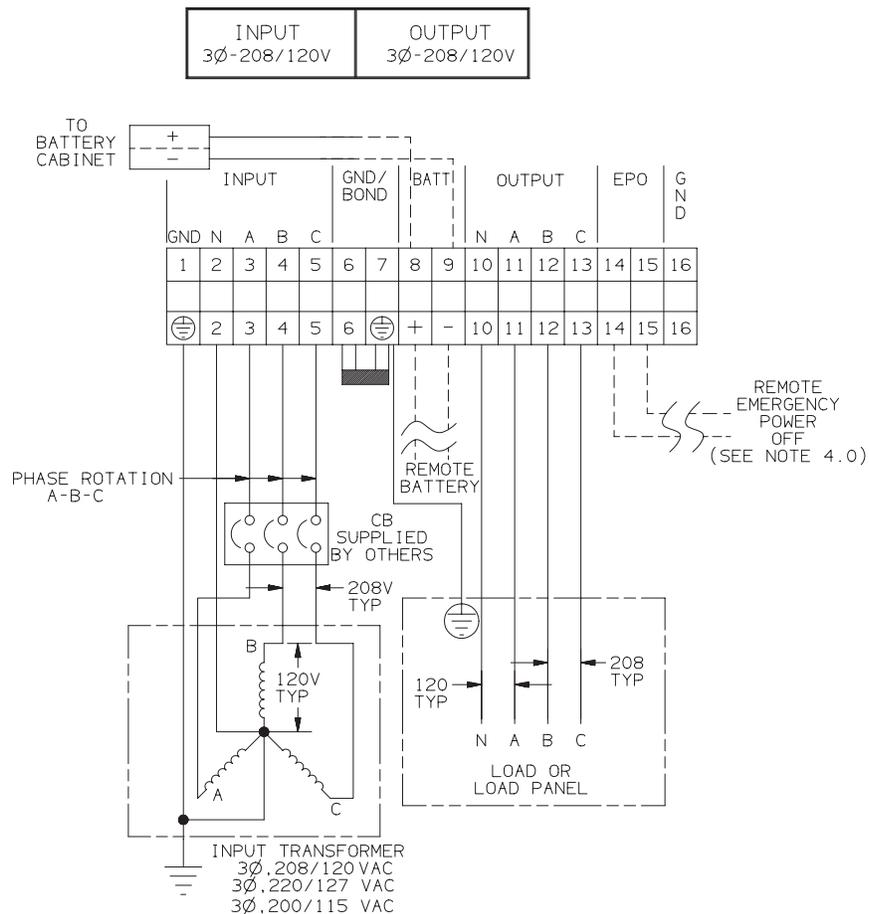

Figure 17. Power Cable Terminal Blocks
7. If you are using a Remote Emergency Power-Off switch, hardwire the terminal block positions 14 and 15. See the termination table on page 45 for proper connections. See Figure 17 on page 45 for the connection locations.